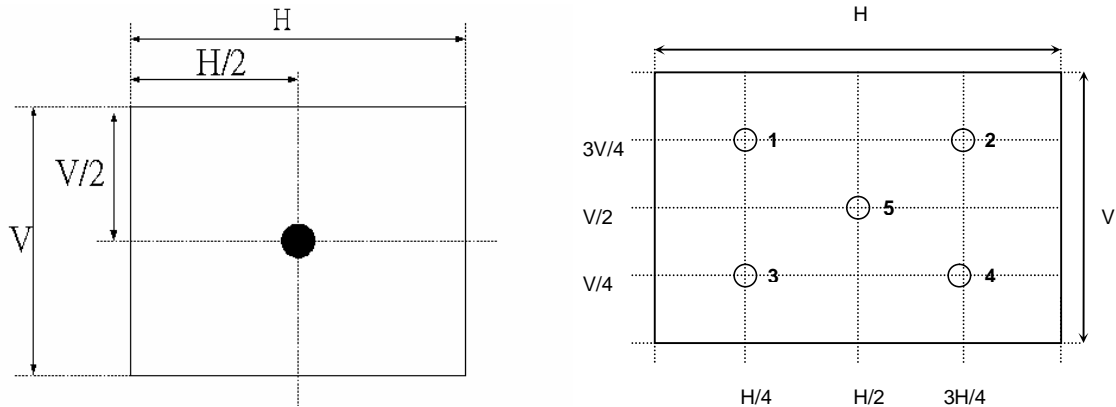

Fig.4-2 Optical measurement point
2. Surface luminance is luminance value at point 1 across the LCD surface 50cm from the surface with all pixels displaying white. From more information see Fig. 4-2. When $V_{DD} = 24V$, $I_{DD} = 7.3A$. $L_{WH} = L_{on1}$, Where L_{on1} is the luminance with all pixels displaying white at center 1 location.